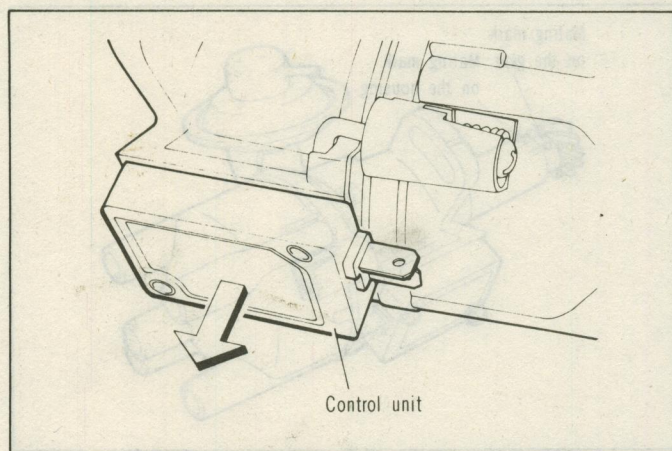

Fig. 39 Removing Control Unit
(1) To remove the control unit, remove the two screws, hold the control unit as shown (Fig. 39), and pull it out. The mating surfaces of the control unit and distributor are coated with silicone grease. Do not wipe it away.